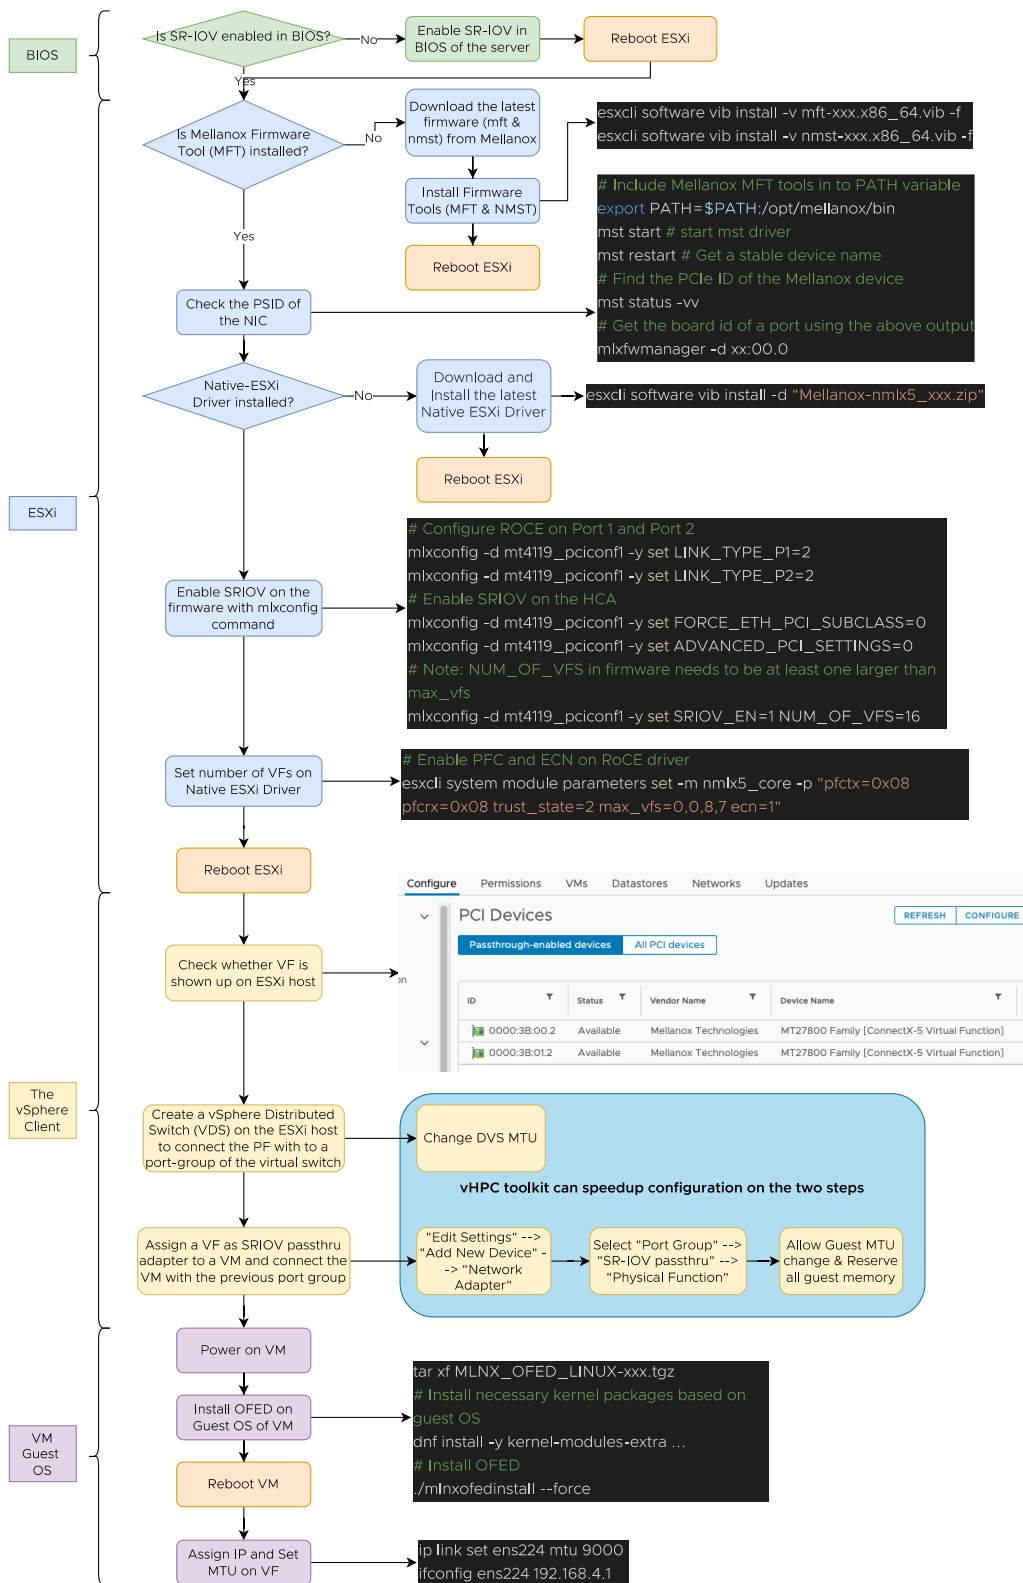

Figure 2: Flow chart to enable RoCE SR-IOV on NVIDIA Mellanox ConnectX-5 in ESXi 7.x.
**Figure 2** presents the flow chart to enable RoCE SR-IOV. The configuration workflow is divided into four stages: the BIOS, ESXi, the vSphere Client and the VM guest.